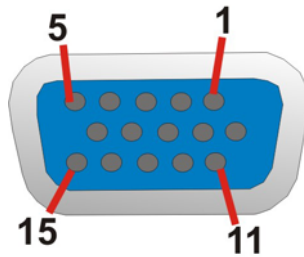

Figure 3-23: VGA Connector
- CN Pinouts:** See **Figure 3-23** an **Table 3-25**